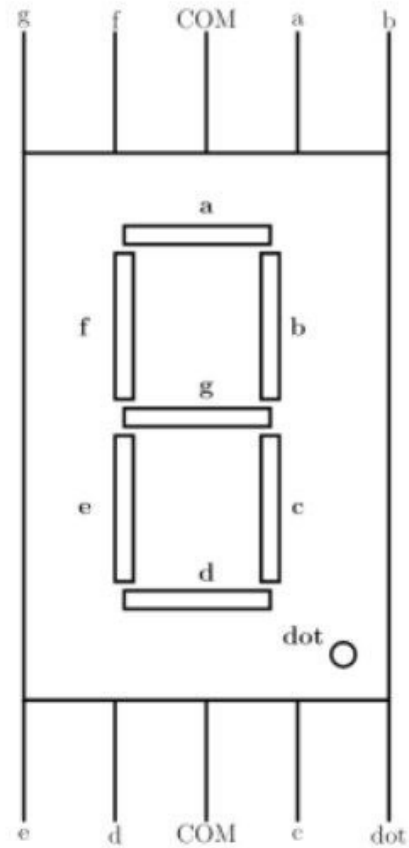

Fig. 6. Seven segmented display
- 6) The seven segmented display is then connected with the decoder (7447 IC) according to Fig 5 and Fig 6.